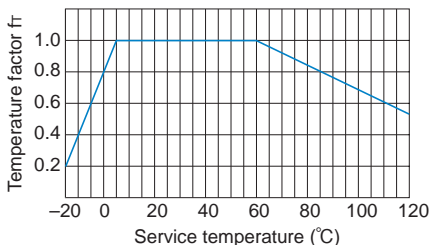

Fig.2 Temperature factor
If the temperature of the spline nut exceeds the normal temperature range, the seizure resistance of the nut and the strength of the material will decrease. Therefore, it is necessary to multiply the dynamic permissible torque (T) and the dynamic permissible thrust (F) by the corresponding temperature factor indicated in Fig.2.
f_r : Temperature factor (see Fig.2)